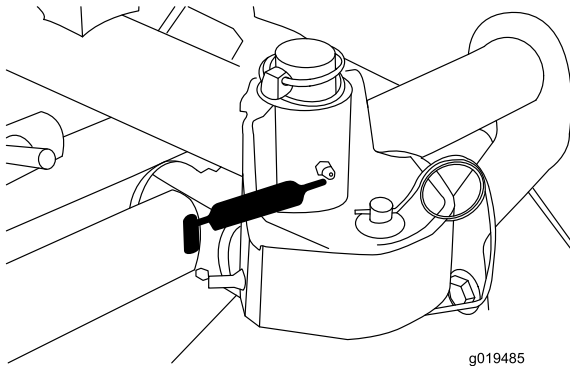

Figure 44
- Cutting unit carrier frame and pivot (2 ea.) (Figure 44).